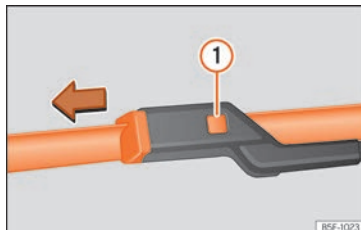

Fig. 39 Changing the windscreen wiper blades
- Press and hold release button » Fig. 39 ❶ and pull gently on the wiper blade in the direction of the arrow.